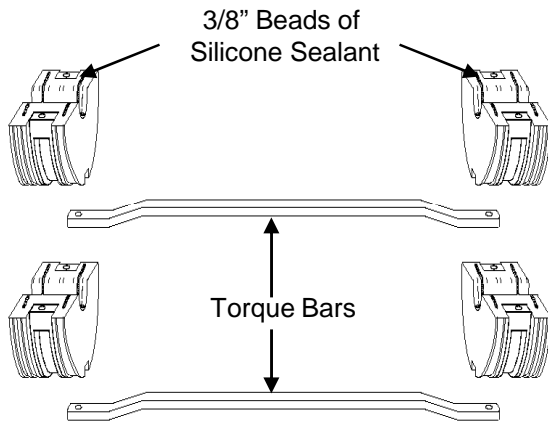

Figure 24
11.9 At this point, preparation work on the End Plate halves is complete and ready for LAP / TLW tube cable installation. **See Fig. 24.**